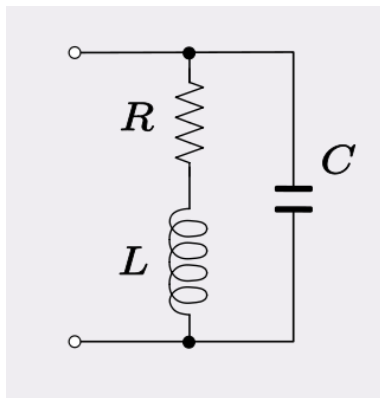

Figure 4
10. Use a series-to-parallel transformation to find the quality factor of the network in Figure 4 at frequency ω_0 , the natural frequency of the resonant network.